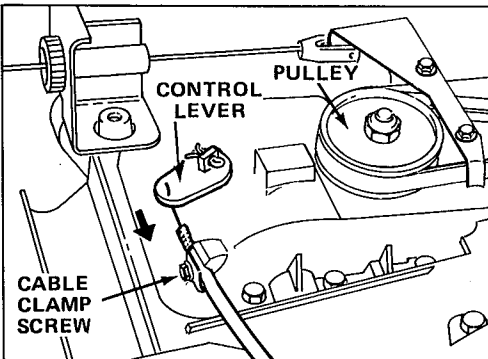

Figure 30
3. ADJUSTMENT (Fig. 30)—Loosen cable clamp screw until cable conduit slides. Make sure that ground speed control lever on control panel remains in "N" position during adjustment. Push transmission control lever toward cable clamp screw and hold lever in place. Pull cable conduit to remove slack and tighten clamp screw.